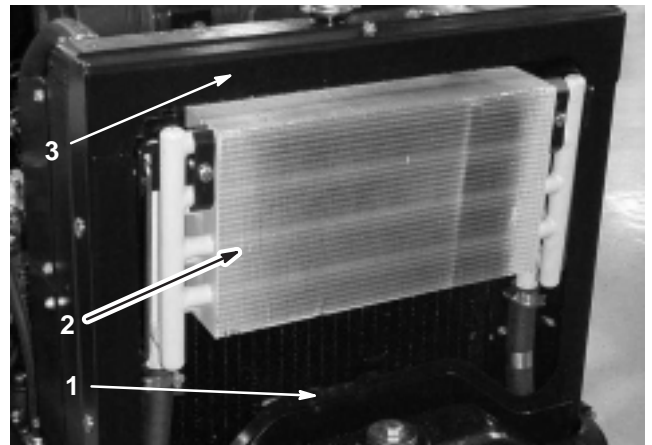

Figure 47
2. Remove the access panel (Fig. 47).